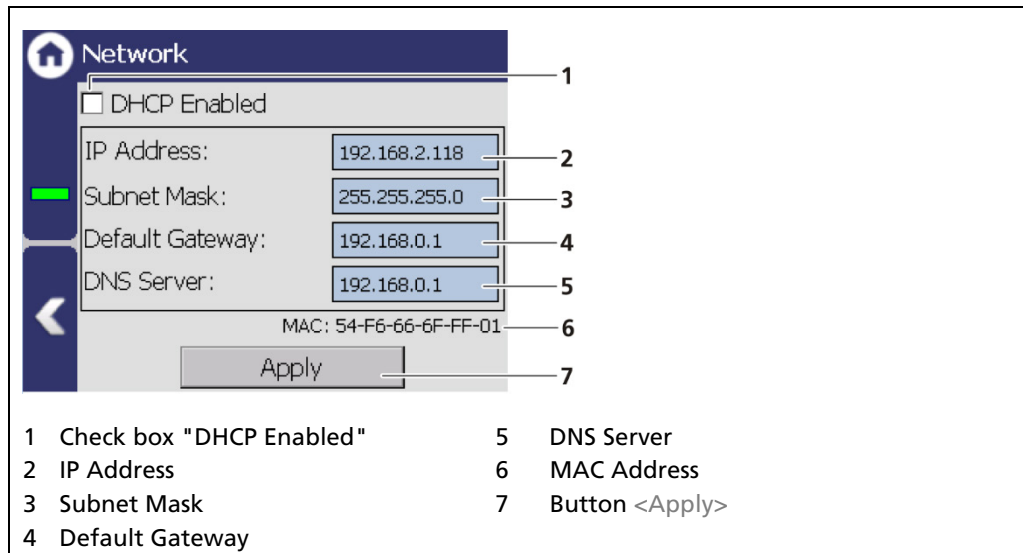

Fig. 49 Network settings
You can set the network address either manually or using DHCP (automatic assignment). To do this, check the "DHCP active" in the selection field (Fig. 49, item 1).
In the event of an automatic assignment of the IP address by a DHCP server, you can only look at the given IP address. A modification of the IP address is not possible. On this side, you can also read the MAC address of the device (Fig. 49, item 6).
1. Click on the text field (Fig. 49, item 2 - 5) to open the input field.
4. Click on <Apply> (Fig. 49, item 7) to adopt the network settings.
The IP address of the EVU must be in the same sub-network (Fig. 49, item 3) as the network adapter of the computer (see previous Chapter "Network").